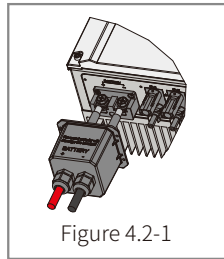

Figure 4.2-1
- **Battery Connection:** Confirm the connection between ES and battery : polarities (+/-) are not reversed, refer to figure 4.2-1